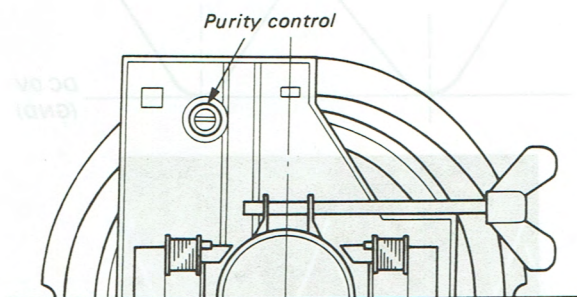

Fig. 1-1.
4. Set the purity knob to mechanical center. (Fig. 1-1)